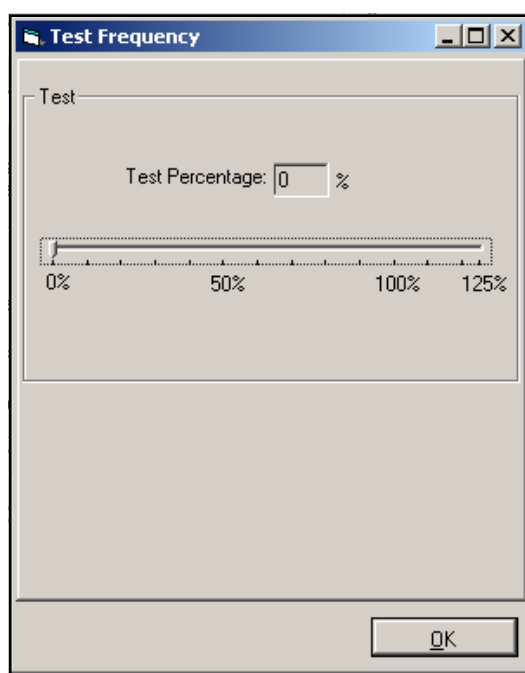

Figure 55: Test Frequency Window
3. The screen should now look similar to *Figure 55* below. Use the mouse to move the **Test Percentage** pointer to 0%. Read the frequency value on the oscilloscope. The oscilloscope should read the **Zero** value. Next, set the **Test Percentage** pointer to 100%. Read the frequency off the oscilloscope. The oscilloscope should read the **Span** value.